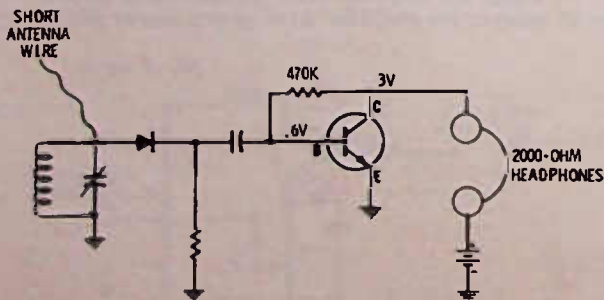

Fig. 8-19. Circuit for Questions 15 and 16.
15. Fig. 8-19 is a crystal radio with a transistor amplifier. Which of the following statements is the only one totally correct?
16. In Fig. 8-19, the headphones are